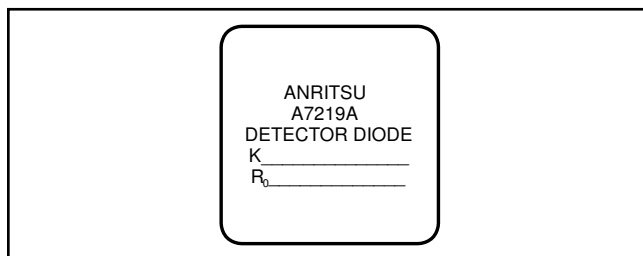

Figure 11. Replacement Diode Module Container Label
7. Obtain the “K” value from the replacement diode container label (Figure 11).